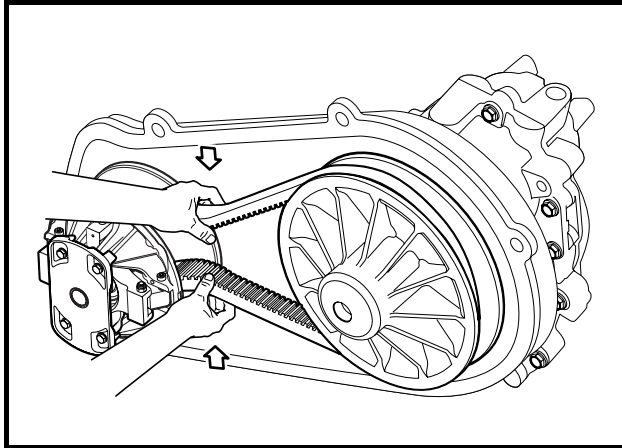

Figure 13b-35 Drive Belt Removal
5. Guide the belt over the driven clutch and roll the belt off the driven clutch by rotating the clutch clockwise (**Figure 13b-35, Page 13b-31**). **See following CAUTION.**